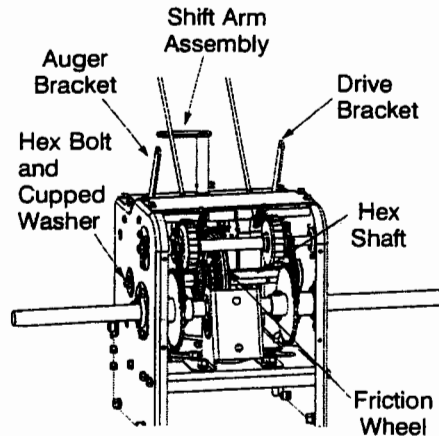

FIGURE 10
- Using a 7/8" wrench hold the hex shaft and remove the hex bolt and cupped washer and bearing from left side of the frame. See Figure 10. Hold the friction wheel assembly, and slide the hex shaft out of the unit toward the right hand side.